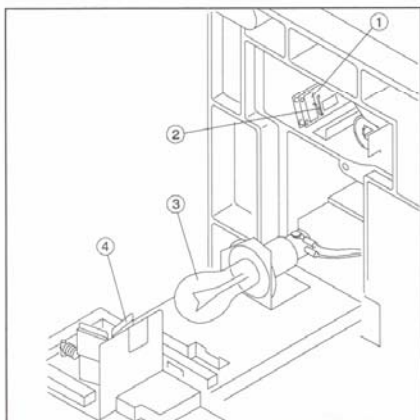
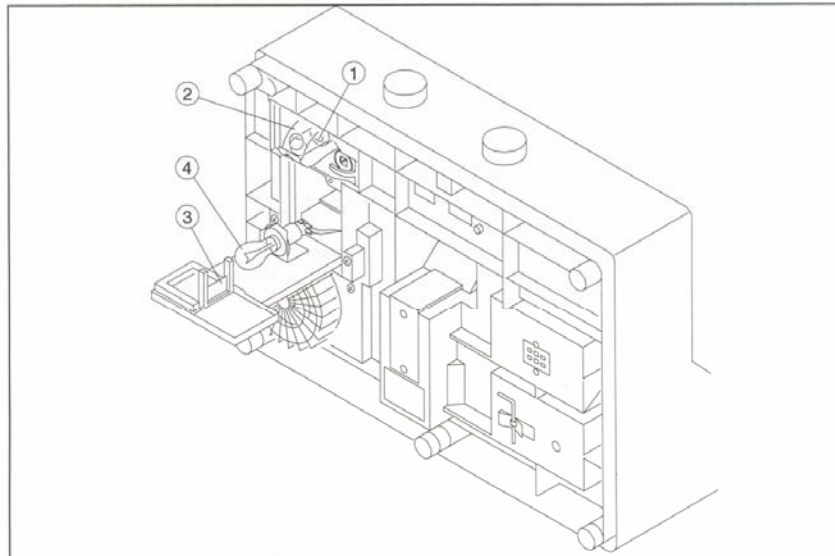

Figure 3-2 Location of photodiode
Figure 3-3 Lamp compartment for SPECTRONIC[®] 20 and 20D models
8. Visually inspect the lamp, photodiode or phototube, and filters to determine if any liquid has spilled on them. Refer to Figure 3-2 or Figure 3-3.
4. Remove the phototube using the plastic straps as an aid (see Figure 3-3).
5. Install the new phototube. If a filter is required, insert it into the holder on the inside of the door (see Figure 3-3). The tube and filter must be clean and free of fingerprints, (If necessary, use a lint-free tissue for cleaning.)